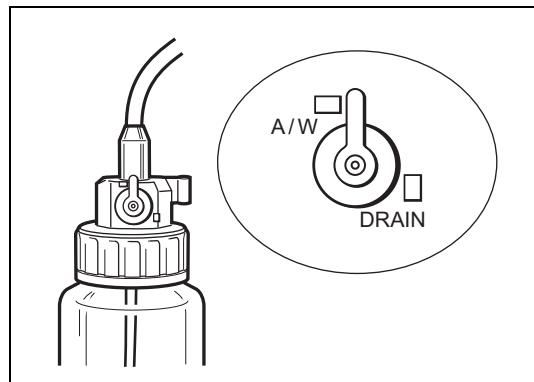

Figure 4.4
- Set the A/W DRAIN lever to A/W position. (Refer to Figure 4.4)